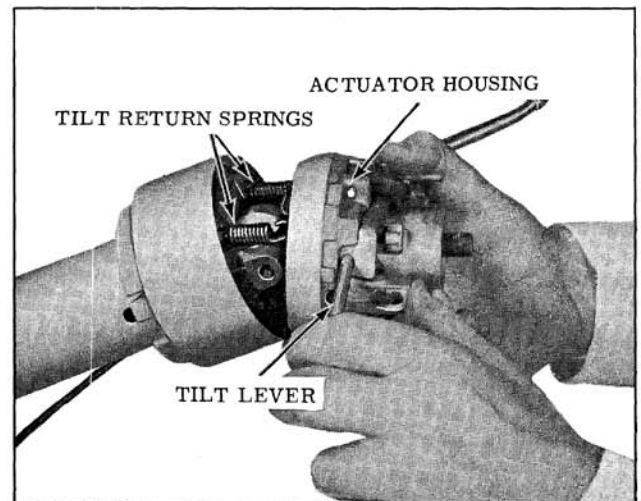

Fig. 8-114 Installing Actuator Housing
- NOTE: The loops on the upper ends of the springs must have the opening toward the top of the column. (Fig. 8-114)